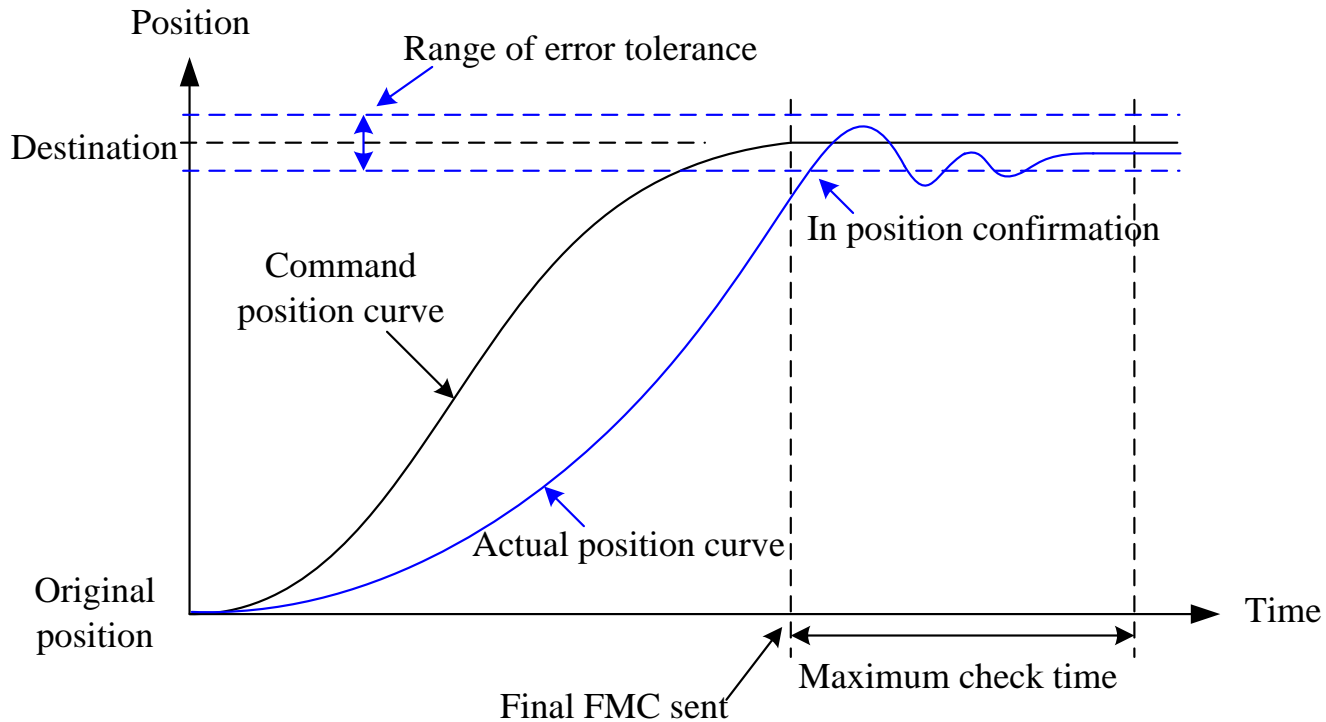

Fig. 2.7.2. IPM_ONETIME_BLOCK mode successful in position diagram
When the position error for each axis in the group is less than or equal to the range of error tolerance (`MCC_SetInPosToleranceEx()` can be used to set this range; units: mm or inch), the in position criteria for this mode is satisfied (see Fig. 2.7.2). If this criteria is not met prior to reaching the maximum check time, subsequent commands will be discarded, and an error record will be produced (use `MCC_GetErrorCode()` to obtain this record).
2. Once the system has been determined to be successfully in position, further in position determination will not be conducted (meaning it will hold the in position status, even if the actual position leaves the set error tolerance again; see Fig. 2.7.2), until a new motion command is selected.